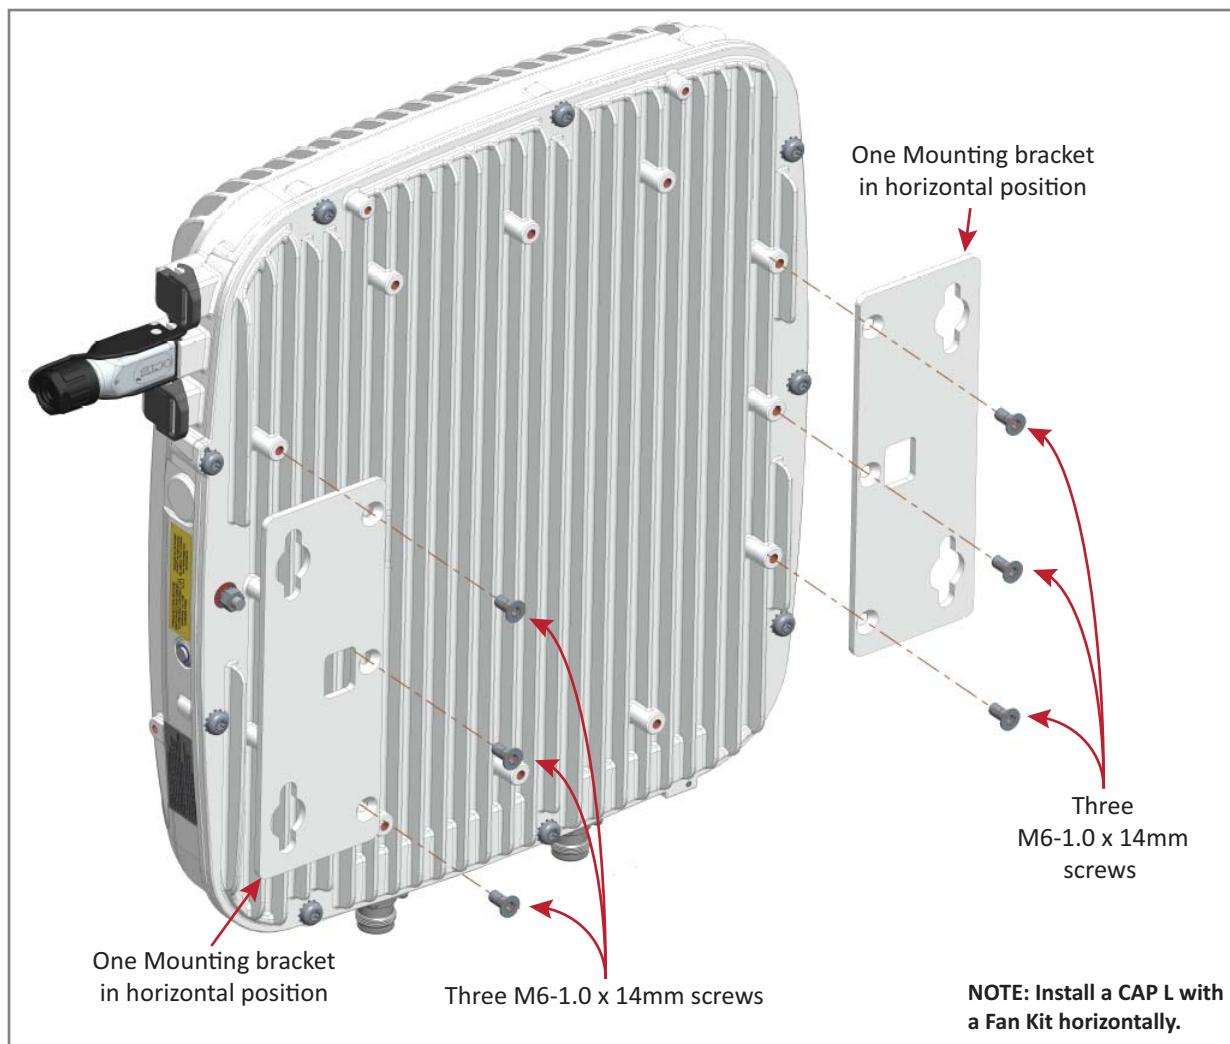

Figure 9. CAP L (No Fan Kit) with Flat Mounting Bracket Kit (PN 7774353-xx)
- 5 Attach the two mounting brackets to the back of the CAP L enclosure as described below and as shown in Figure 9 (CAP L with a Fan Kit) and Figure 10 on page 27 (CAP L without Fan Kit).